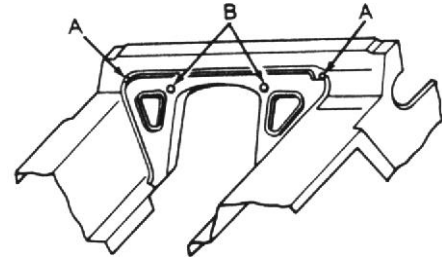
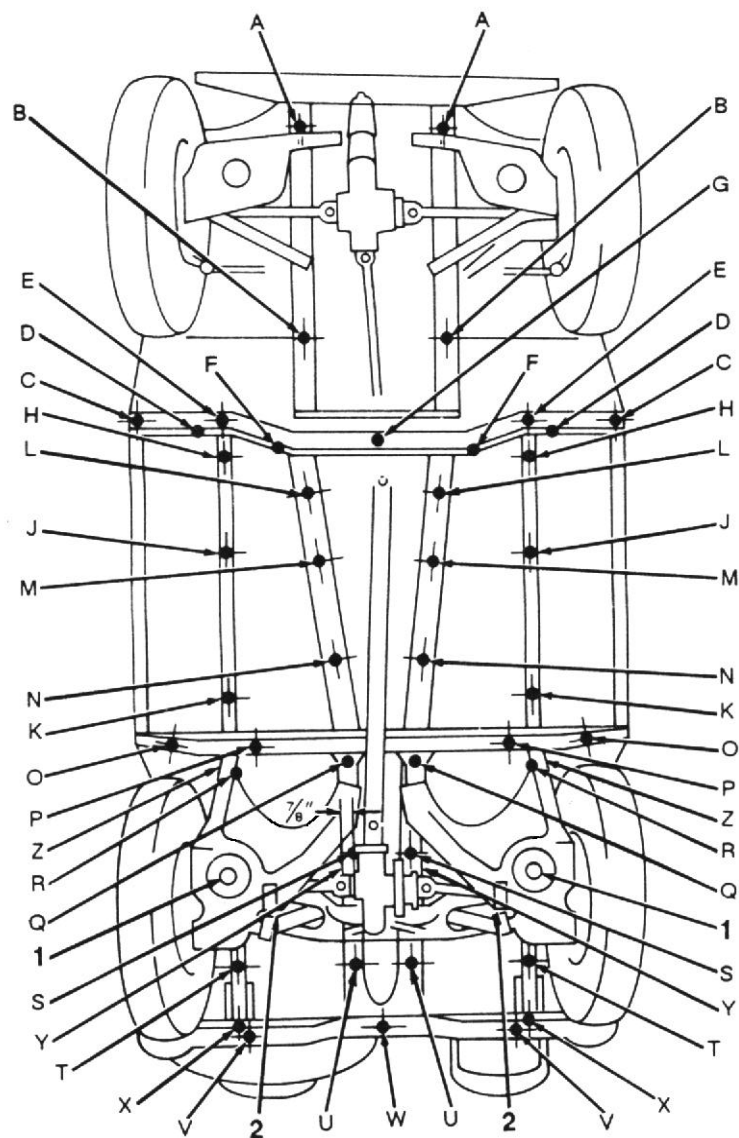

Figure 4-10. Rustproofing Firewall. TA504783
Figure 4-15. Rustproofing Underbody (M151A2, M718A. and
- For rustproofing procedures of specific body items, refer to Figure 4-10 through Figure 4-15.
Rustproofing Firewall (see Figure 4-10).
Rustproofing Underbody (M151A2, M718, and M825) (see Figure 4-15).